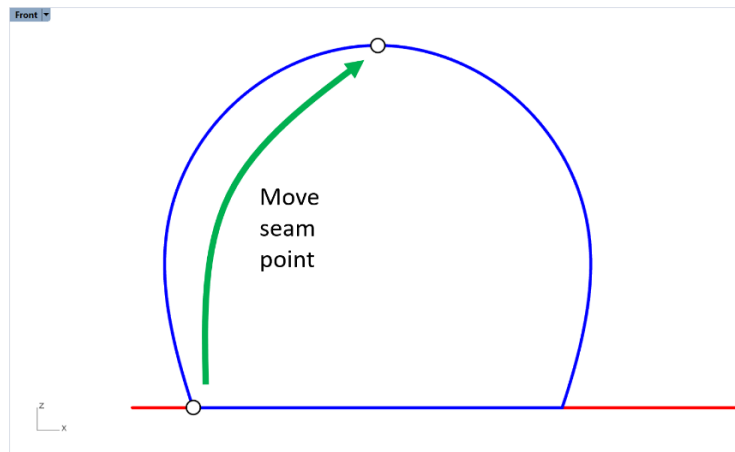
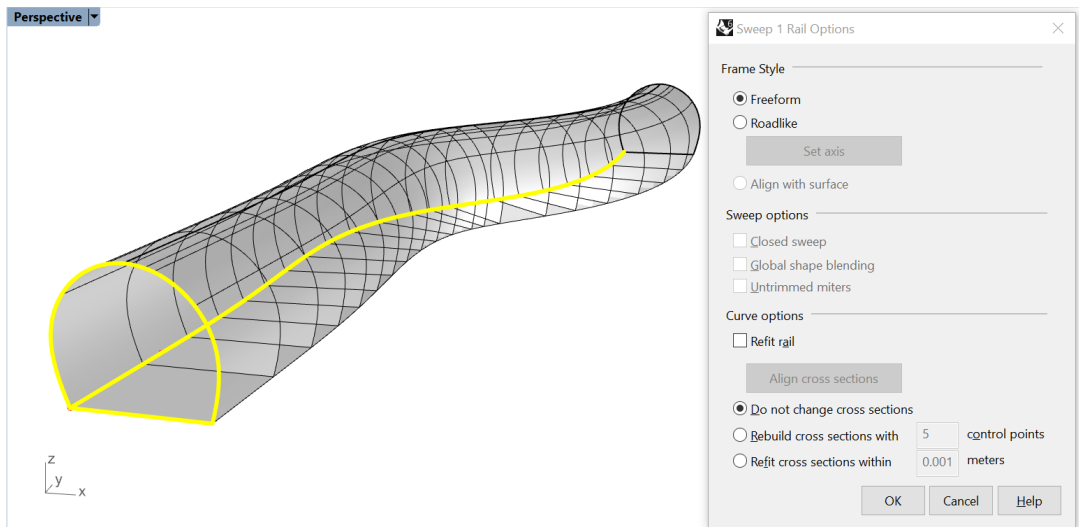

Figure 53: Drag seam point to the top of the tunnel profile.
Figure 54: Creation of tunnel surface by sweeping the profile curve along the direction path.
8. Select the red curve (excavation direction) and type the command **_Sweep1**. For cross-section curves, select the single blue curve (tunnel profile). When offered to *Drag seam point to adjust*, drag it from the bottom-left corner of the tunnel profile to the topmost point of the profile and press **Enter** (maximize *Front* viewport for ease of dragging the seam point; this can be done while the command is active; Figure 53). It is important to move the *seam point* from the corner to create the proper geometry suitable for **BlockRanger**. For other options in the **_Sweep1** command, use those shown in Figure 54.